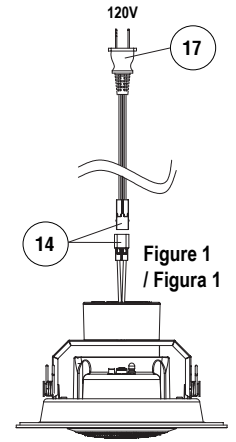

Figure 1 / Figura 1
2. Confirm Orange Connector (14) of Power Plug (17) is connected to the fixture's mating Orange Connector (14), and then connect the plug to an AC120V electrical outlet (Figure 1).